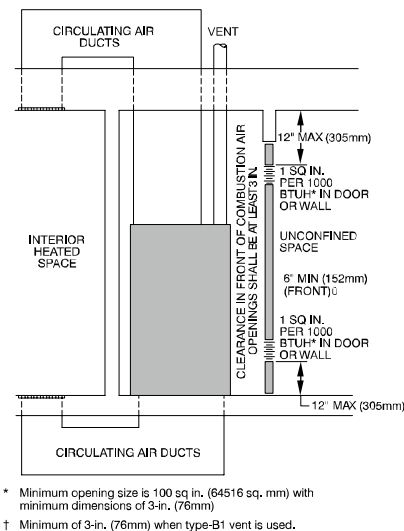

Fig. 9 – Air for Combustion, Ventilation, and Dilution from Indoors
- b. Combining spaces on same floor level. Each opening shall have free area of at least 1 in.2/1,000 BTU/h (2,000 mm2/kW) of the total input rating of all gas appliances in the space, but not less than 100 in.2 (0.06 m2). One opening shall commence within 12 in. (300 mm) of the ceiling and the second opening shall commence within 12 in. (300 mm) of the floor. The minimum dimension of air openings shall be at least 3 in. (80 mm), see Fig. 9.